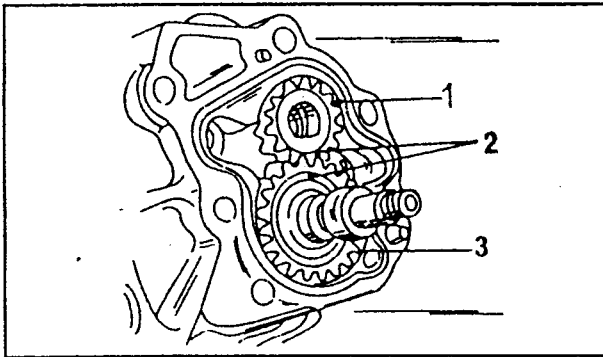

Fig. 1.66. — Aligning the timing marks when fitting the oil pump gears.
- Insert the two oil pump gears from the front into the front housing, aligning the marks as shown in Fig. 1.66. The two alignment marks must be opposite each other.